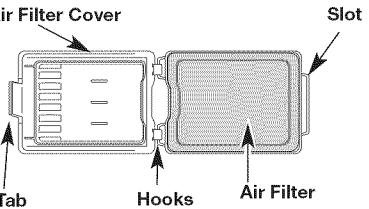

Fig. 19
1. Open the air filter cover. Push the tab on the under side of the cover inward. Then pull the air filter cover out and up (Fig. 19).
2. Remove the air filter (Fig. 19).
6. Replace the filter (Fig. 19).
7. Reinstall the air filter cover. Position the slots on the top of the air filter cover onto the tabs at the top of the back plate (Fig. 19).
8. Swing the cover down until the tab on the air filter backplate snaps into place in the slot on the air filter cover (Fig. 19).